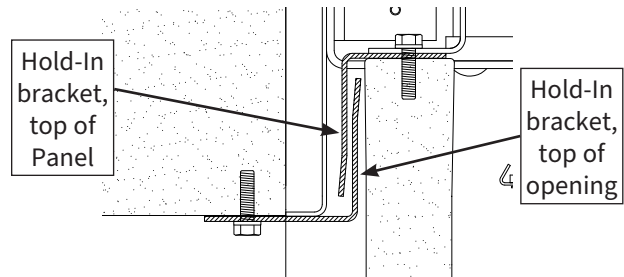

Figure 11: Hold-In Brackets, Top of Opening
5. Retrieve hold-in brackets from shipping crate (see Figure 11 & 12). These will be installed after installing panel.
2. Slide hold-in brackets on top and trailing edge of door panels in or out such that these brackets are between the hold-in bracket assemblies and the header or the trailing edge face frame (Figure 11 & 12).